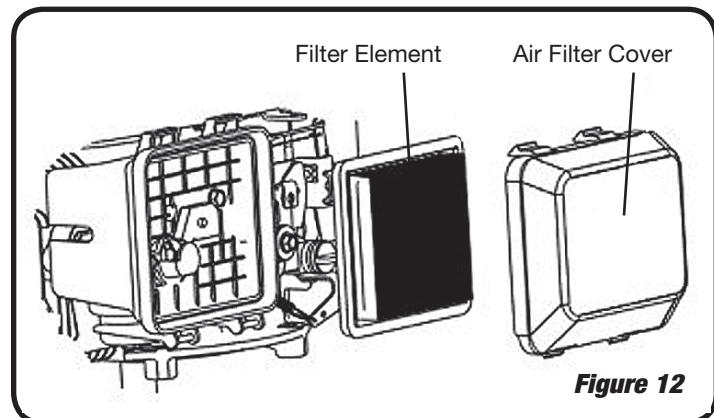

Figure 12
1. Remove the air filter cover, and carefully remove the filter element. (See Figure 12)